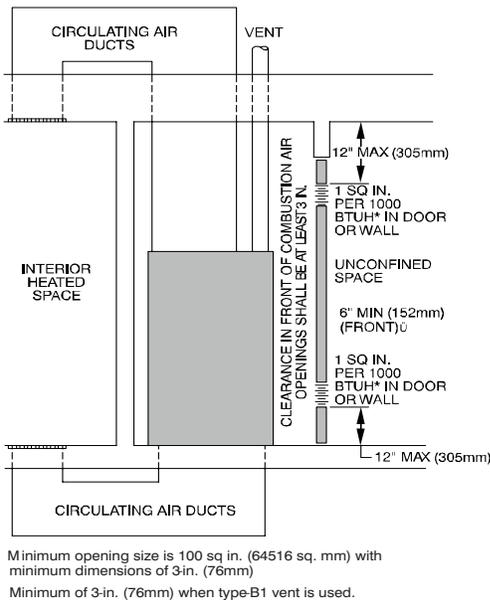

Fig. 7 – Air for Combustion, Ventilation, and Dilution from Indoors
- b. Combining spaces on same floor level. Each opening shall have free area of at least 1 in.2/1,000 BTU/h (2,000 mm²/kW) of the total input rating of all gas appliances in the space, but not less than 100 in.2 (0.06 m²). One opening shall commence within 12 in. (300 mm) of the ceiling and the second opening shall commence within 12 in. (300 mm) of the floor. The minimum dimension of air openings shall be at least 3 in. (80 mm). See Fig. 7.